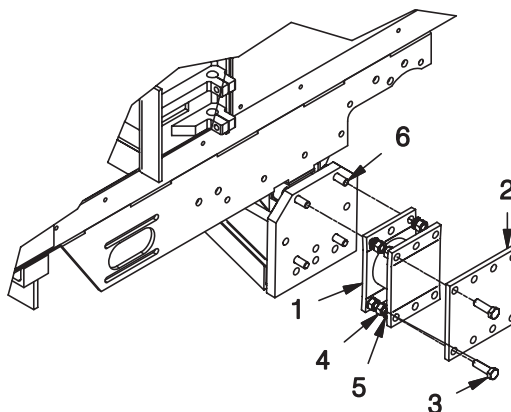

Figure 1 - Mounting Extension and Spacer
A. Place (4) R13807958 bolts through the Axle as shown in Figure 1. Place (1) F000008182 Extension onto the axle where the 4 bolts are as shown in Figure 1. Place (1) SPC0031139 Spacer onto the extension as shown in Figure 1. Torque all nuts and bolts as per torque chart on page 1.